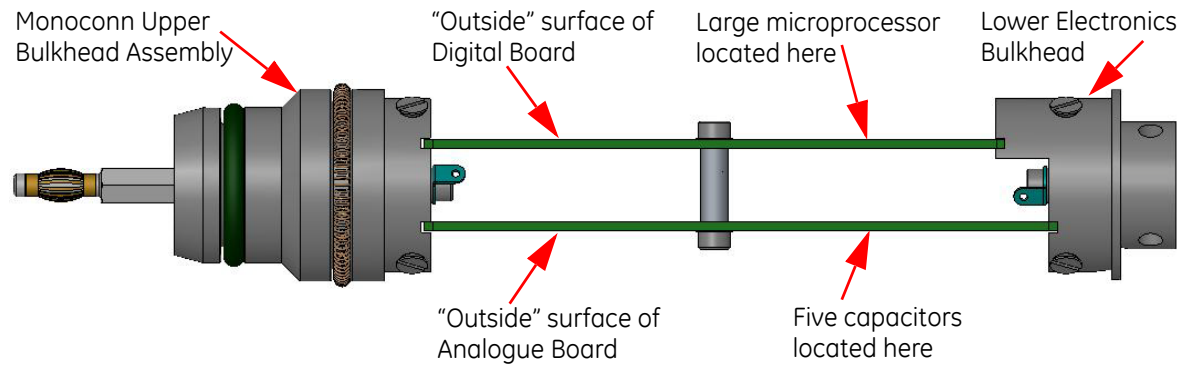

Figure 5-5 Identification of “outside” of the PCB Assemblies in the In-Line Electronics Chassis Assembly
- 6 Make sure the two Skt Cap Hd Screws (*item 14*) and the two Lock Washers (*item 10*) secure the two Solder Tags (*item 12*) to the applicable Bulkhead (*item 3 and 5*). Make sure also there a 15mm length of Silicone Rubber Sleeving (*P/N: A013-00000*) over the connection between the wire and the Solder Tag.
- 7 With reference to *Figure 5-5*, make sure the two PCB Assemblies (*item 1 and 2*) are in the correct orientation and then install the two Skt Cap Hd Screws (*item 14*) and the associated two Crinkle Washers (*item 11*) through the two PCB Assemblies (*item 1 & 2*) and into the Spacer (*item 13*).